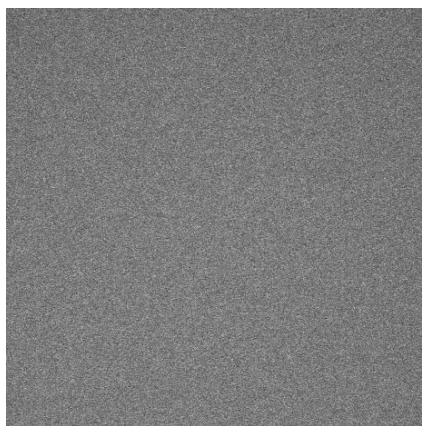

Fig. 135 Image of dye layer
- Obtain an LSM image of a dried layer of a suitable dye (Fig. 135). Optimize focus position.